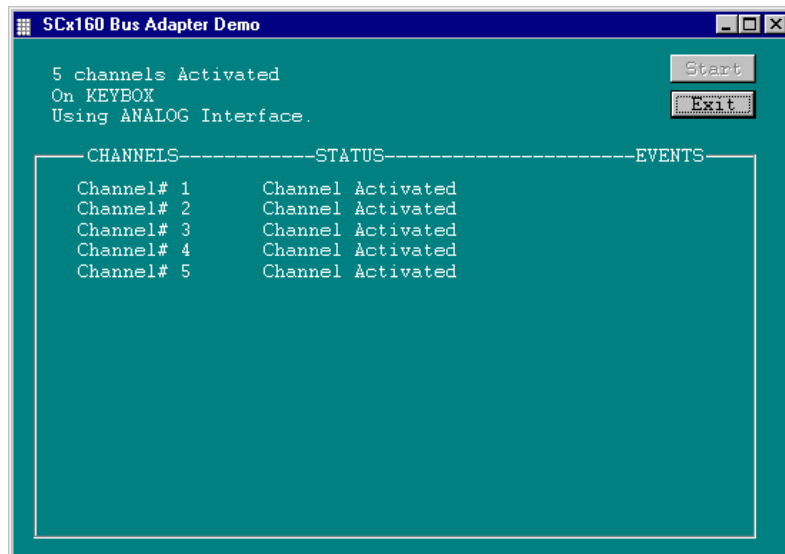

Figure 18. Starting the Server Node
3. Click the **OK** button. A summary of the information entered is displayed, such as shown in *Figure 18. Starting the Server Node*. At the server node, activate the channels by clicking on the **Start** button shown in *Figure 18*.